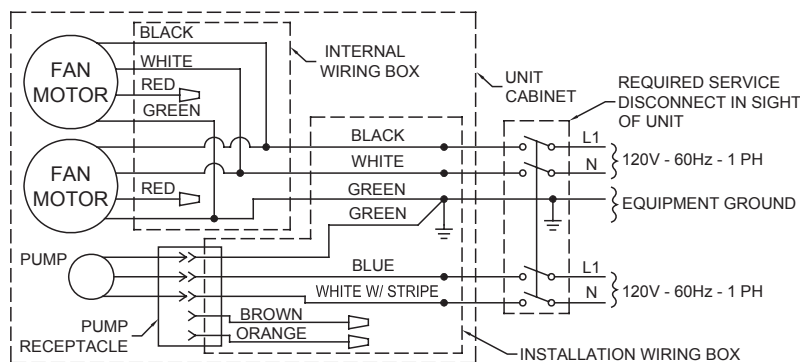

Fig. 4
- **Hook up electrical.** Electrical hook up should be done by a qualified electrician, so that all electrical wiring will conform to your local standards. This unit is supplied with a 120V pump and fan motor. See figure 4 for the wiring diagram.